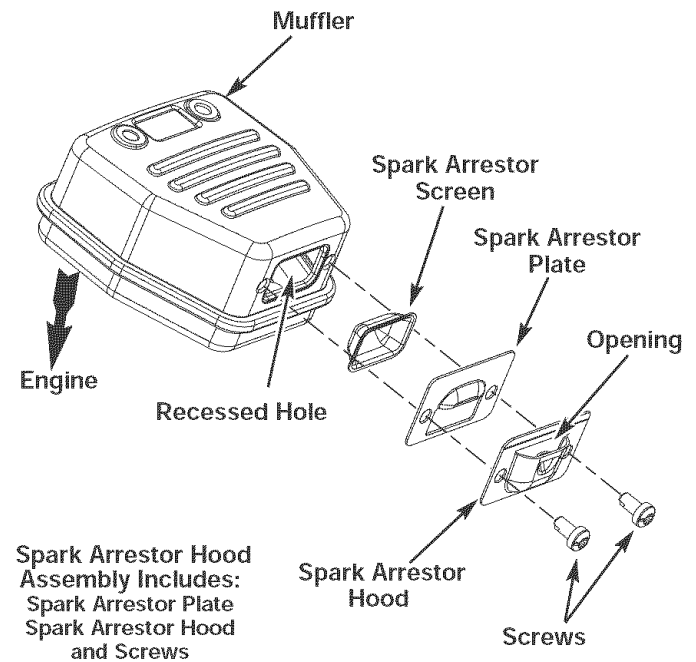

Fig. 39
2. Locate the muffler, but do not remove it. Find the two (2) screws on the bottom of the muffler (Fig. 39). These two screws hold the Spark Arrestor Hood Assembly and the spark arrestor screen to the bottom of the muffler. Remove the two (2) screws using either a torx #20 or flat blade screwdriver.
6. Place the spark arrestor plate on top of the spark arrestor with the "raised" side up and the opening facing towards the engine (Fig. 39).
7. Place the spark arrestor hood on top of the spark arrestor plate with the "raised" side up and the opening facing AWAY from the engine (Fig. 39). Verify that the exhaust will be directed AWAY from the engine.